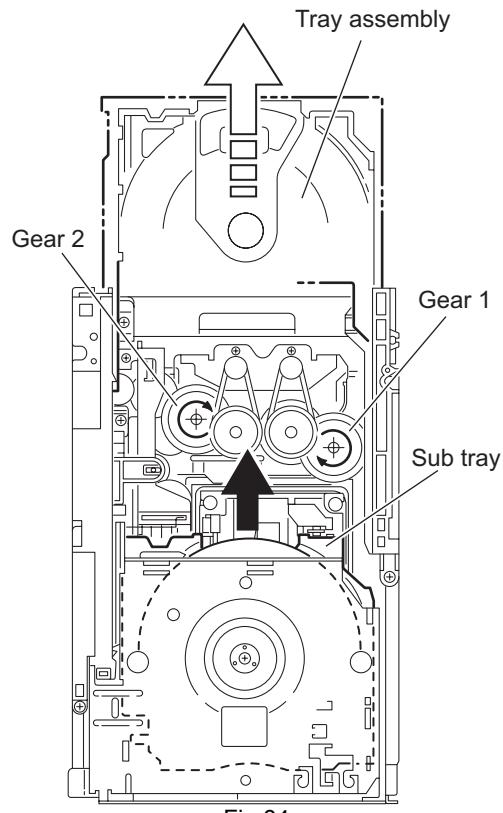

Fig.34
(See Fig.34 to 37)
- (1) From the top side of the DVD changer mechanism assembly, remove the top cover.
- (2) Unlock the tray assemblies and draw out the tray assemblies toward the front.
- (3) From the top side of the DVD changer mechanism assembly, turn the gear 1 clockwise to move the lifter assembly upward. (See Fig.34.)
- (4) Turn the gear 2 clockwise to move the sub tray remaining inside the lifter assembly toward the front, then pull out. (See Fig.34.)